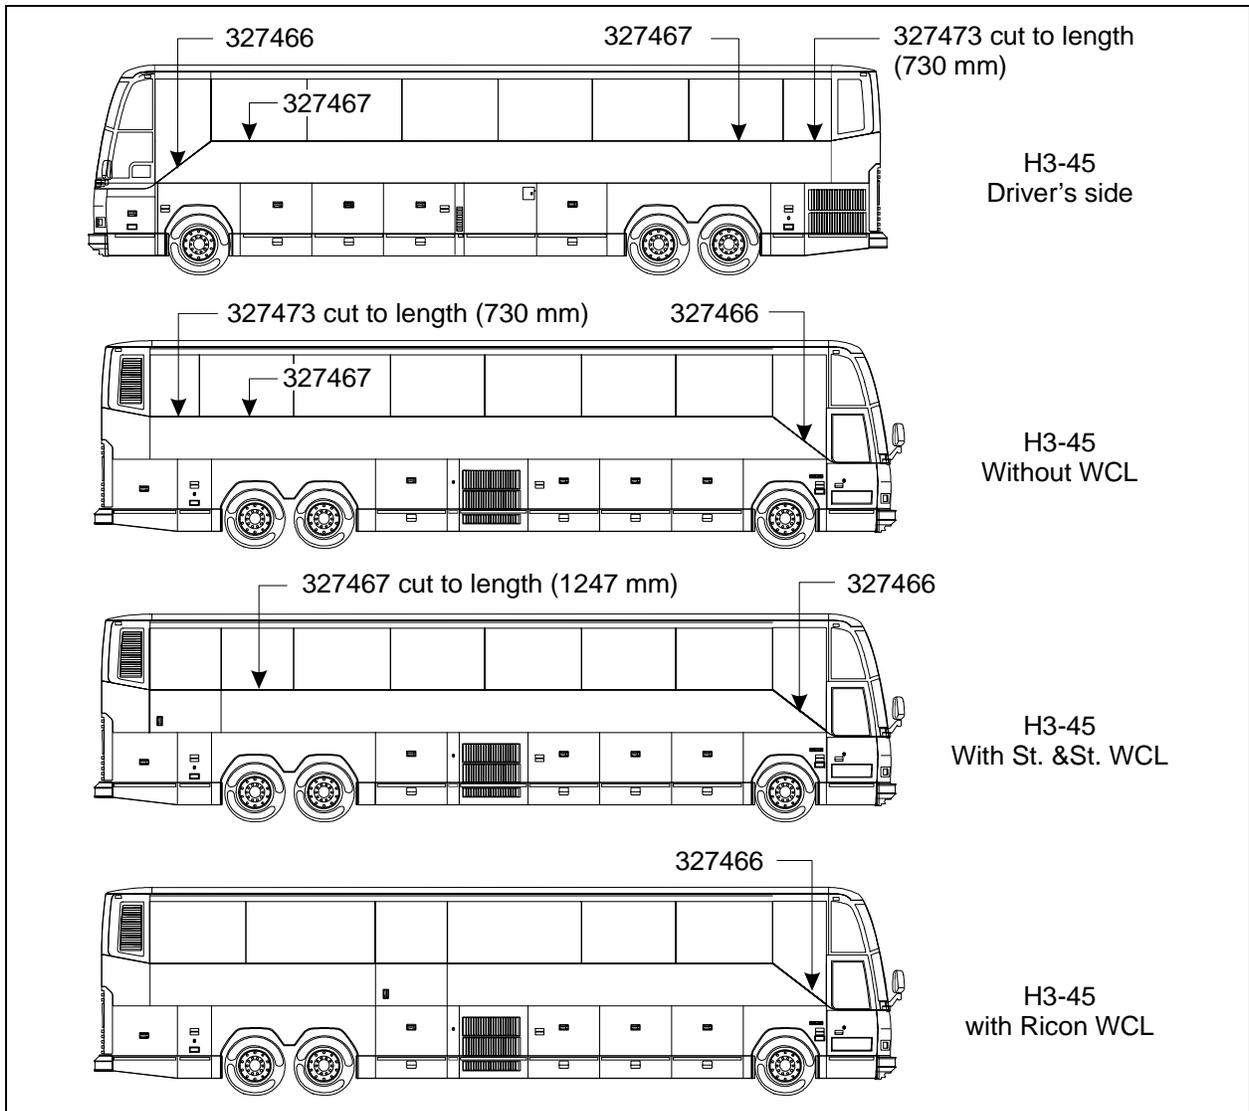
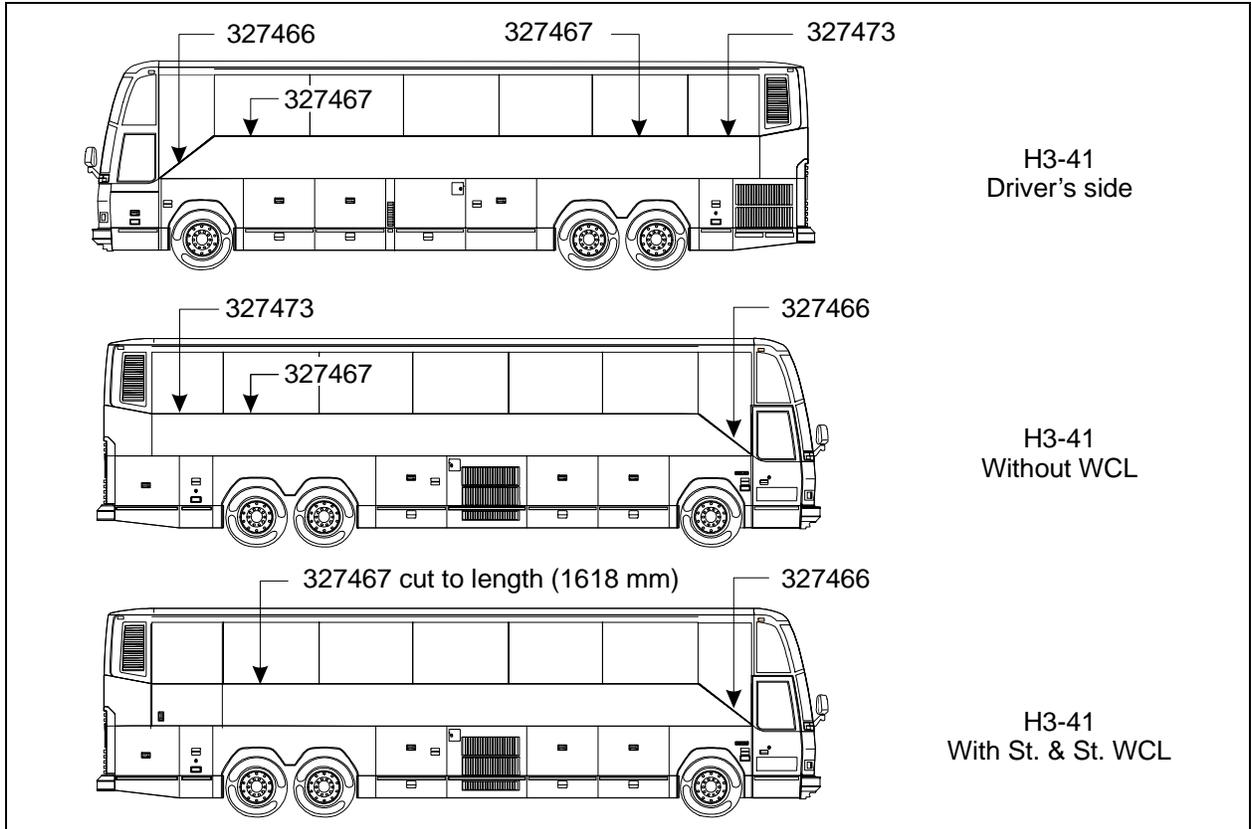
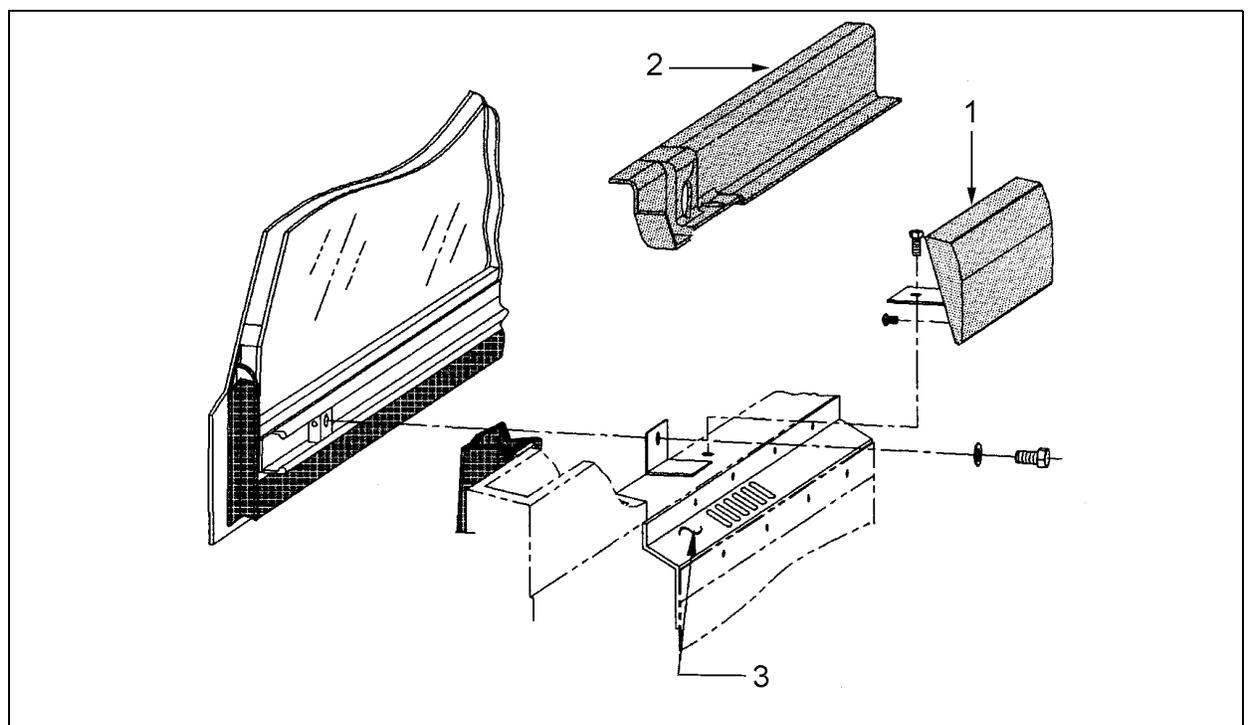

FIGURE 1: WINDOW LAYOUT ON POSSIBLE H3-45 COACH CONFIGURATIONS
FIGURE 2: WINDOW LAYOUT ON POSSIBLE H3-41 COACH CONFIGURATIONS
FIGURE 3: VENTILATION GRILLE (3) AND RELATED COMPONENTS
1. Locate the windows to modify. For an H3-45 coach, refer to figure 1. For an H3-41 coach, refer to figure 2;
2. Remove the trim at the base of the windows. Refer to figure 3 to remove the sill (item 1) and if equipped, the interior molding (item 2);
3. Drill out the rivets (1/8 in.) fastening the ventilation grille (figure 3, item 3) and replace with the new ventilation grille, using the pop rivets provided. Refer to figures 1 or 2 to determine the right grille location and if it must be cut to length;